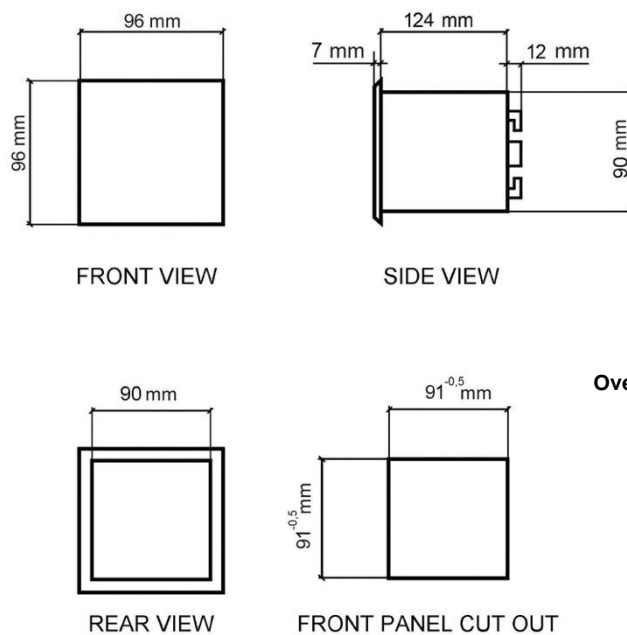

Figure 2.1
3. Make a cutout in the panelboard [*Figure 2.1*] and fix the relay by using the fixing elements provided.